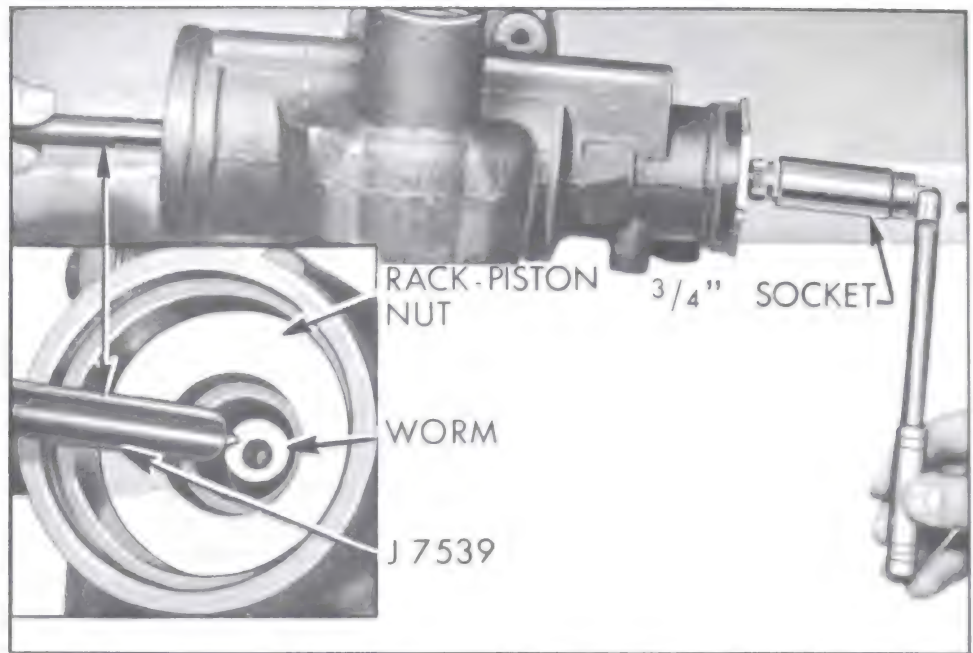

Figure 8-54—Removing Rack-Piston Nut
7. Insert Ball Retaining Tool J-7539 in end of worm. See Figure 8-54. Turn stub shaft so that rack-piston nut will go onto the tool and remove rack-piston nut from gear housing. Keep ball retaining tool completely through rack-piston nut to prevent balls from falling out.